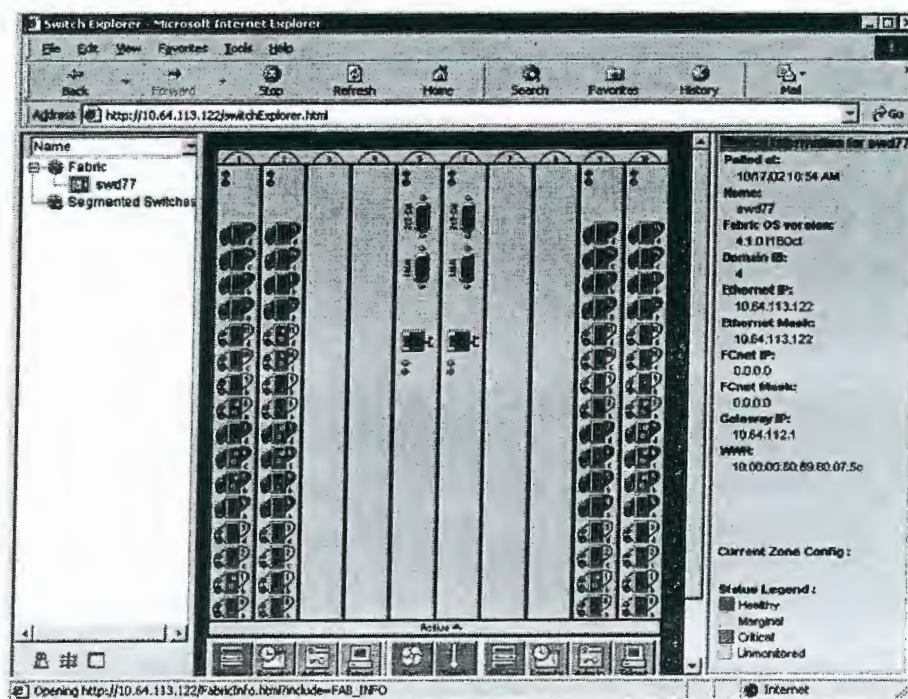
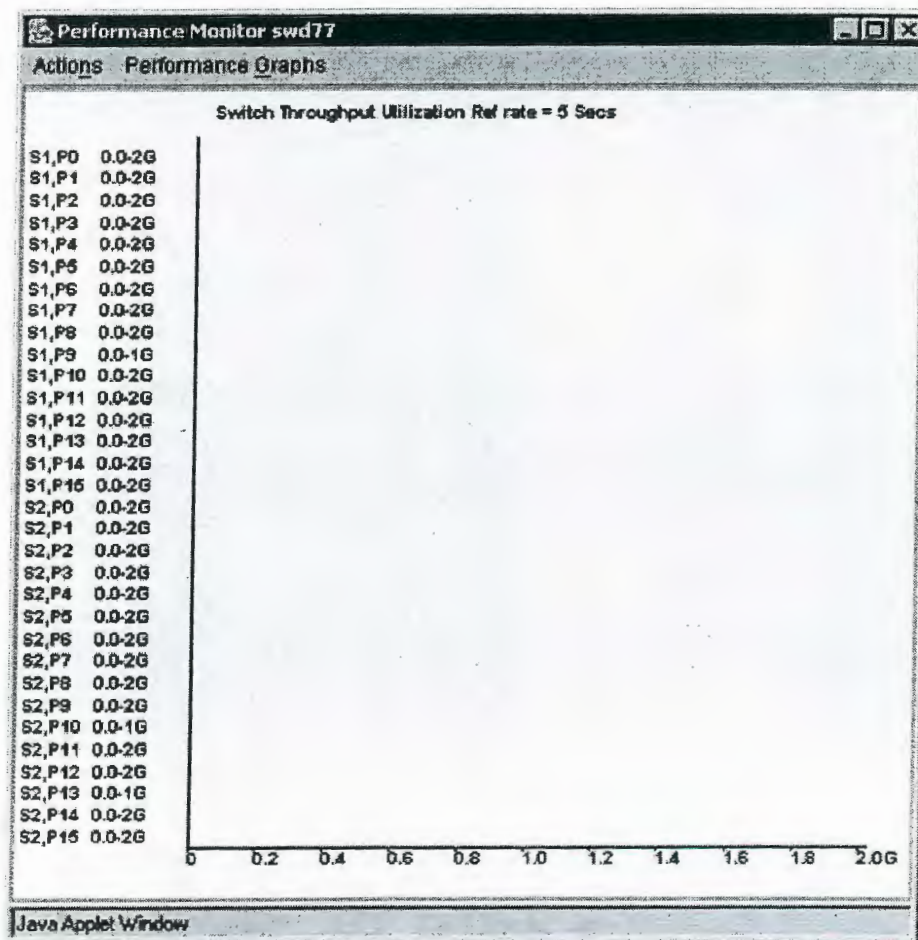

Figure 3-1 Switch View in Web Tools
Figure 3-2 Performance Monitor
2. Click the **Switch** icon of the switch you want to monitor, launching the Switch View, refer to Figure 3-1 on page 3-3.
3. Click on the **Perf** icon in the Switch View, launching the Performance Monitor window, refer to Figure 3-2 on page 3-4.
In addition to Figure 3-1, Figure 3-2, and Figure 3-3, the Performance Monitoring Resource Usage Display shown in Figure 3-6 shows which filter slots have been used for each port, and which are available. The color-coded interface makes troubleshooting easier.